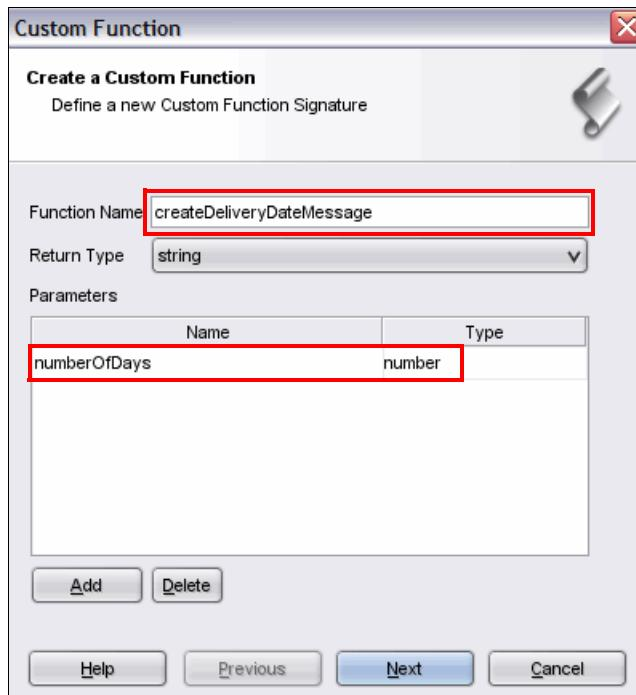

Figure 12-33 Creating a custom function
2. In the Custom Function window, enter a function name of `createDeliveryDateMessage`. Click **Add** to create a parameter. Call the parameter `numberOfDays`, and give it a type of `number`, as shown in Figure 12-33. Click **Next**.